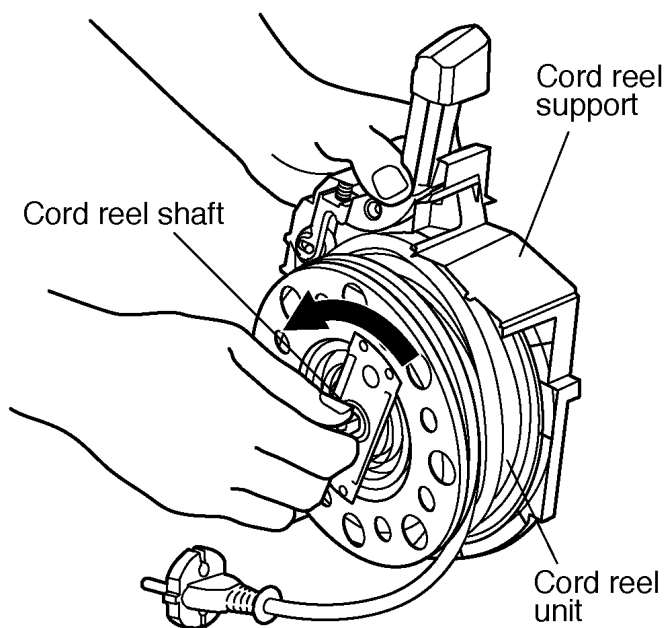

fig.15
4. Turn the cord reel shaft in the arrow direction and detach cord reel unit from cord reel support. (Fig. 15)
3. Turn the cord reel shaft in the arrow direction and detach cord reel unit from cord reel support. (see figure 15)